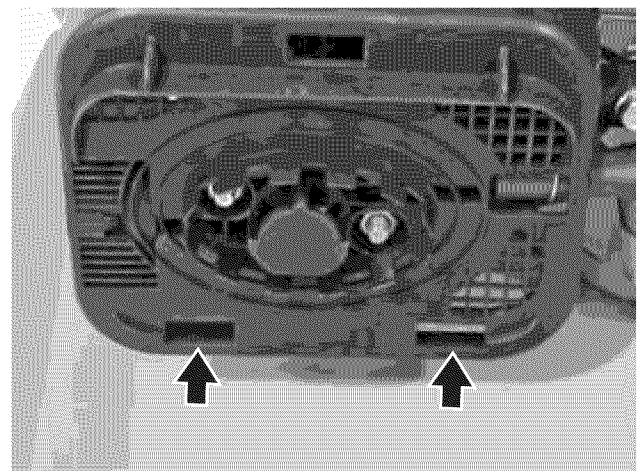

Figure 58 – Installation of Air Cleaner Cover
11. Make sure the hinges at the bottom of the air cleaner cover are properly inserted into the holes at the bottom of the air cleaner assembly (see Figure 58).